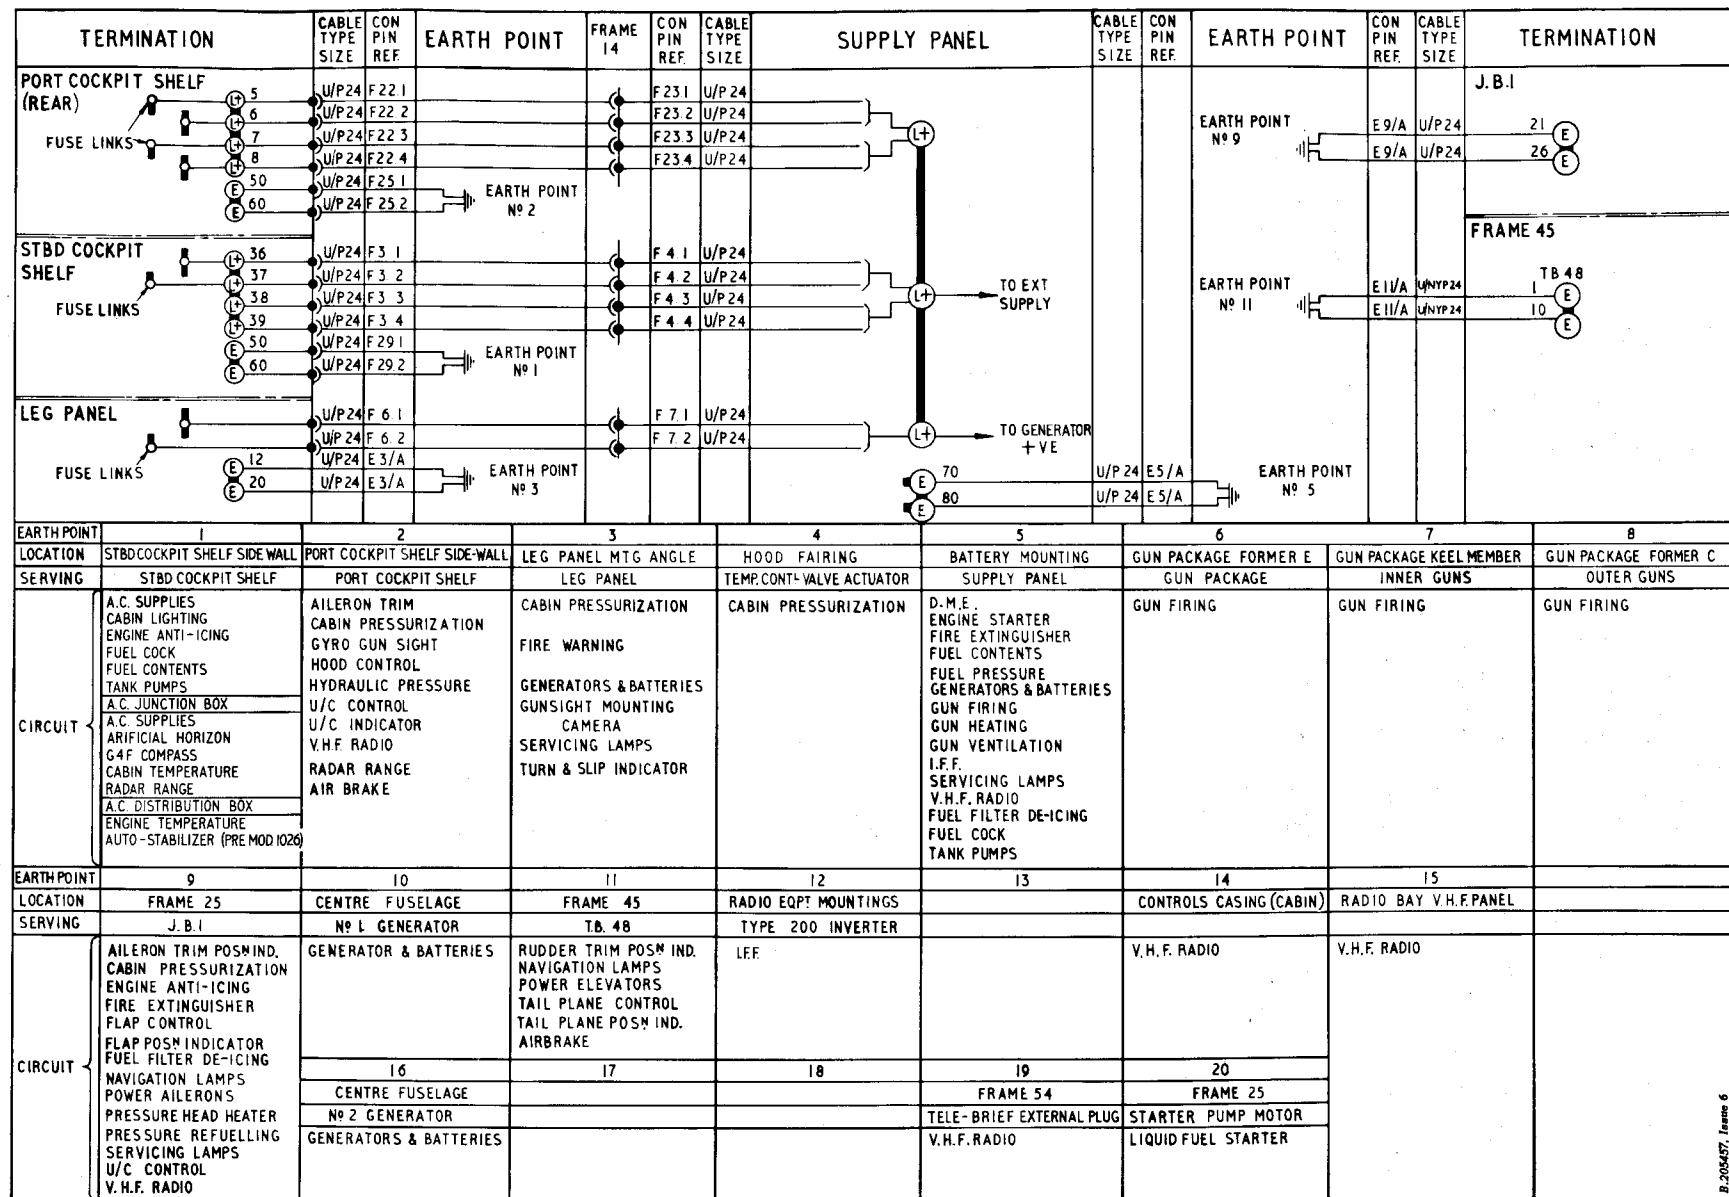

Fig.1 Supply and earth routeing chart
3. The wiring cable assemblies are run between junction boxes and panels located at points convenient for distribution to the equipment and for breaking down the aircraft. The majority of the cable assemblies are provided with fully weatherproof multi-pole plug and socket breakdown points. Whenever possible the cable connections to the plug and socket pins are crimped. To facilitate servicing and testing, the earth return connections are restricted in number and taken to stud type earth points, which are shown on the cable assembly layout, (Group 4.3, fig.1) and listed on the supply and earth routeing chart, fig.1 of this group.
4. The generators are mounted on, and driven by the auxiliary gearbox situated in the engine bay, and their control equipment is mounted on a panel located on the starboard side of the radio bay. The batteries are mounted on a platform also located in the radio bay. The supply from the generators and batteries to the fuse bus-bars is shown, together with the earth return points, on fig.1 of this group.